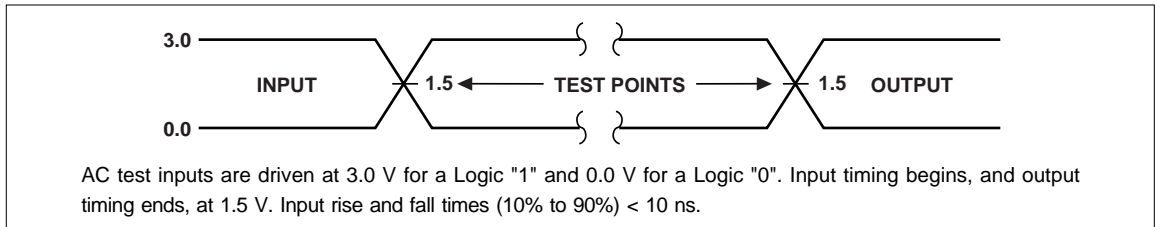
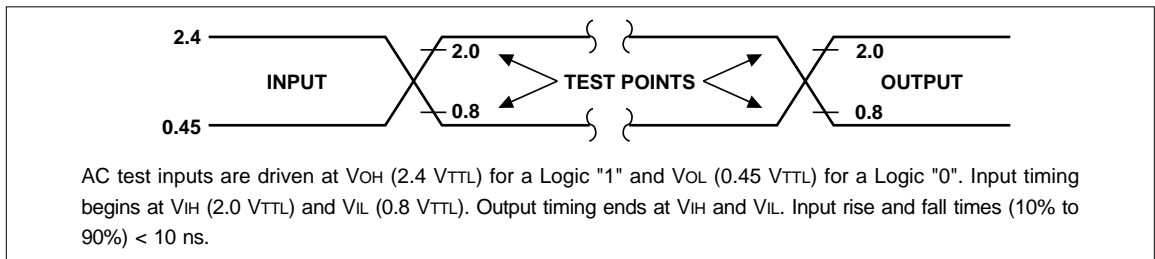
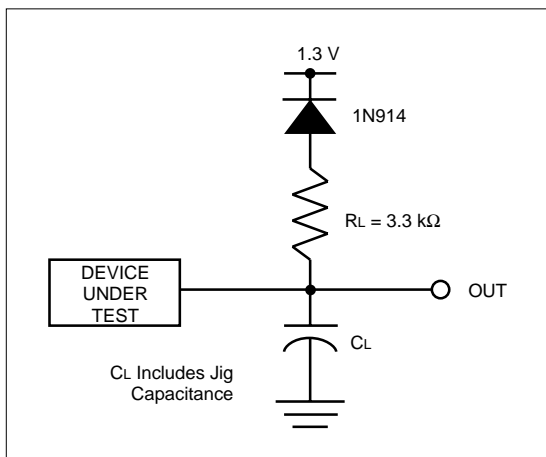

Fig. 9 Transient Input/Output Reference Waveform for $V_{CC} = 5.0\pm 0.25\text{ V}$ (High Speed Testing Configuration)
Fig. 10 Transient Input/Output Reference Waveform for $V_{CC} = 5.0\pm 0.5\text{ V}$ (Standard Testing Configuration)
Fig. 11 Transient Equivalent Testing Load Circuit
1. See AC Input/Output Reference Waveform (Fig. 9 and Fig. 10) for maximum allowable input slew rate.
4. See Fig. 9 "Transient Input/Output Reference Waveform" and Fig. 11 "Transient Equivalent Testing Load Circuit" (High Speed Configuration) for testing characteristics.
5. See Fig. 10 "Transient Input/Output Reference Waveform" and Fig. 11 "Transient Equivalent Testing Load Circuit" (Standard Configuration) for testing characteristics.